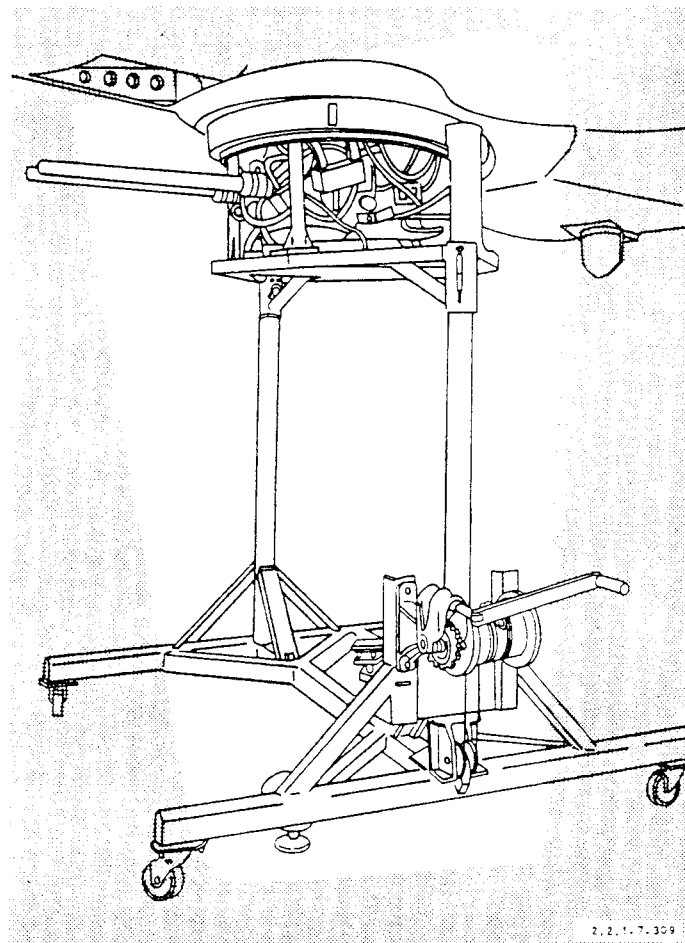

Figure 2-25. Lower Turret Raised Into Position
- d. Remove turret by lowering lift. (See figure 2-25.)
- b. Raise turret into position. (See figure 2-25.)